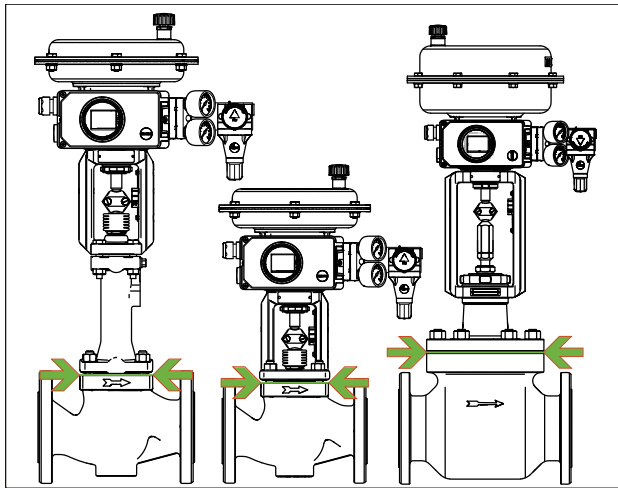

Fig. 13: Limit of insulation for control valves (example shown)
- ⇒ Only insulate control valves up to the bonnet flange of the valve body (see Fig. 13). This also applies to versions with bellows seal or insulating section at medium temperatures below 32 °F (0 °C) or above 428 °F (220 °C). If the insulating section is insulated, it will not function properly.